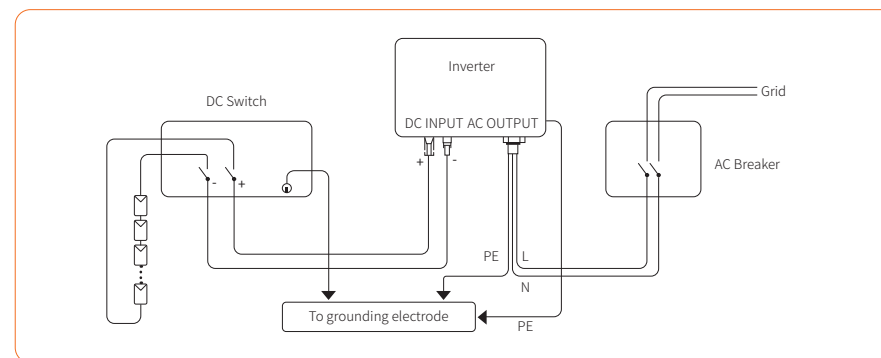

Figure 4-15
① The DC switch of Sunways inverter is optional. Local standards or codes may require that PV systems are fitted with an external DC switch on the DC side. The DC switch must be able to safely disconnect the open-circuit voltage of the PV array plus a safety reserve of 20%. Install a DC switch to each PV string to isolate the DC side of the inverter.
② The DC switch has to be certified by AS 60947.3:2018 and AS/NZS IEC 60947.1:2020. The Max.current of the DC switch matched by STS-3-6KTL inverter is no less than 30A and for STS-3-6KTL-P inverter is no less than 40A. We recommend the following electrical connection, as shown in Figure 4-15: